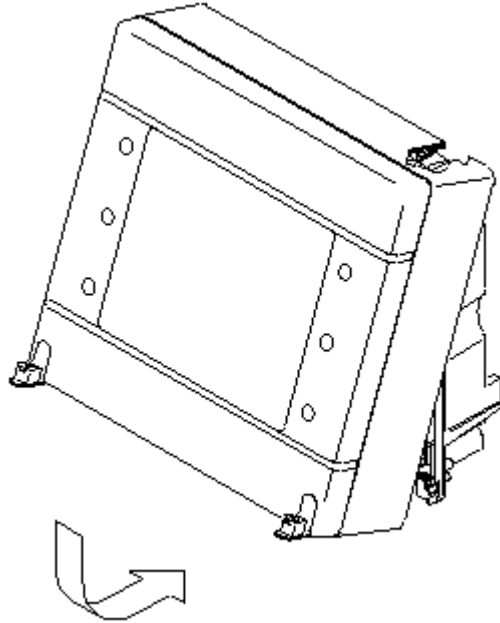

Figure 32: Closing the Top Cover
1. Hook the top cover to the main unit and push it into place slowly, as shown in Figure 32.